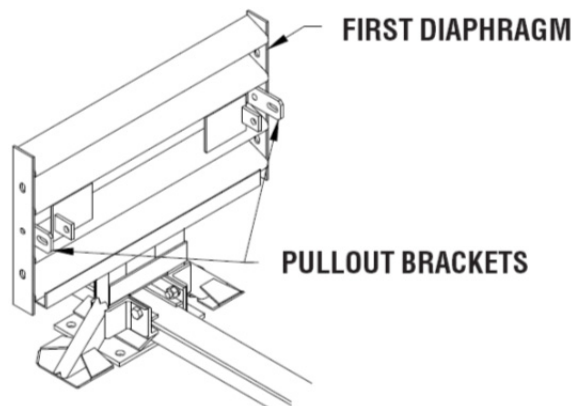

Figure 72
- 6) Attach 10 mm [3/8"] x 6 m [20'] Grade 40 (minimum) chain to Pullout Brackets on first Diaphragm (see Figure 72). Attach both ends of chain to a heavy vehicle (such as a 1 ton pickup).